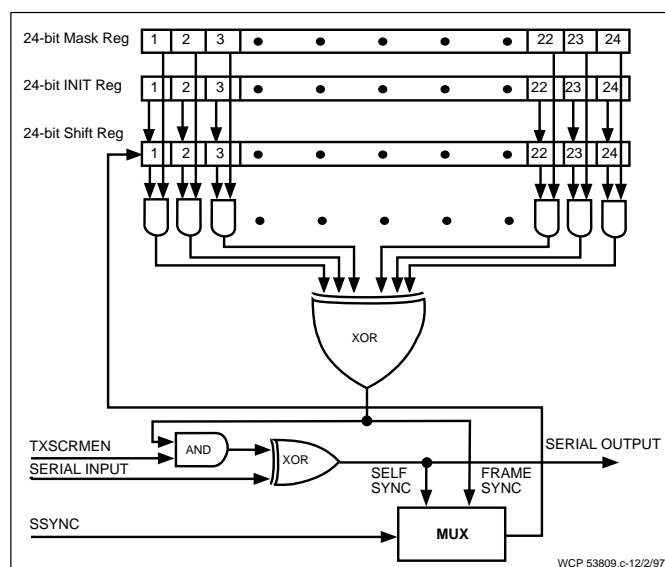

Figure 26. Scrambler Block Diagram
The scrambler can be used to randomize the serial data in order to avoid a strong spectral component that might otherwise arise from the occurrence of repeating patterns in the input data. The Scrambler (Figure 26) uses a Pseudo-Random (PN) generator to